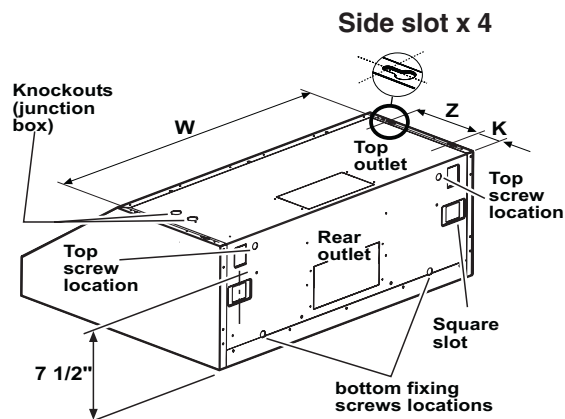

Figure 6a
- After the hood installation height has been determined draw a horizontal line at a distance above the cooktop equal to the desired hood installation height plus 7- 1/2". See also Figure 6a.